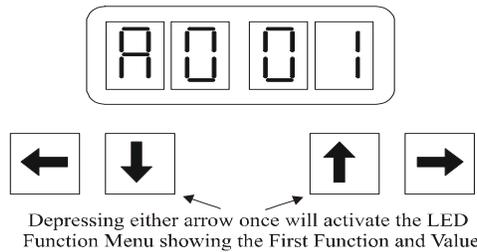

Figure MMC-343-11: Display Function Menu Activated
- B Depressing either the Up or Down Arrow Push Button will activate the Function Menu. (refer to Figure MMC-343-11: Display Function Menu Activated)